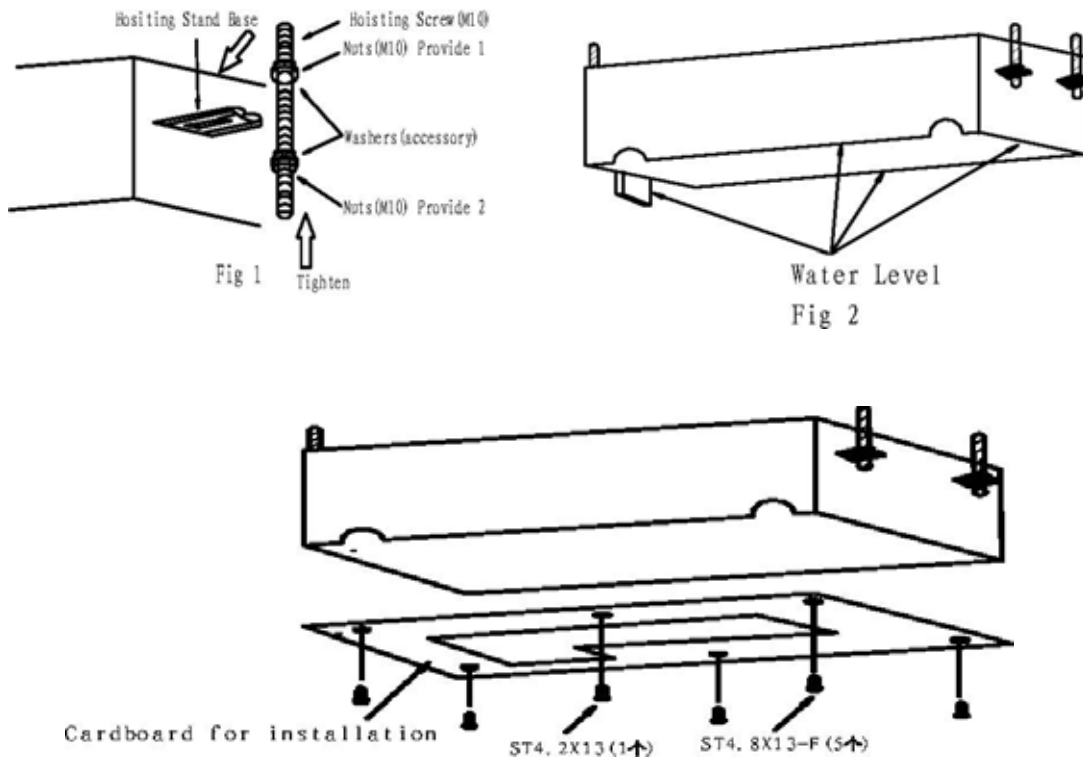

Fig 3
When connecting the pipe to the unit or remove it from the unit, please do use both spanner and torque wrench. as shown in fig.3.
Examine the connection pipe for gas leakage, and then take the treatment of heat insulation, as shown in the fig.3.
- Use screws to fix the installation cardboard on the unit. (refer to Fig.3)